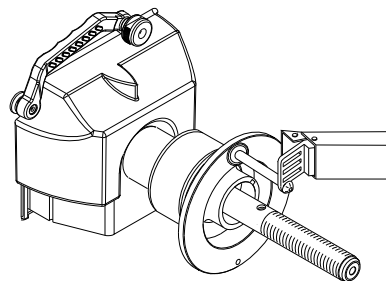

Figure 48
12. Touch the tip of the *width* gauge to the backing collar and hold it for one second or press the "**F**" button (Figure 48). The display will change to "**bAC**" "**H**" "**POS**" followed by a tone. Return the SAPE arm to the home position.